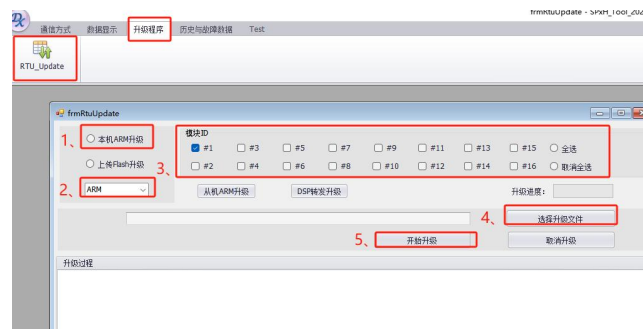

Figure 30
(2) Upper computer software debugging function
Step 2: As shown in Figure 30, during RTU communication, users must select the corresponding serial port and baud rate (default: 115200). After completing parameter selection, click Connect.